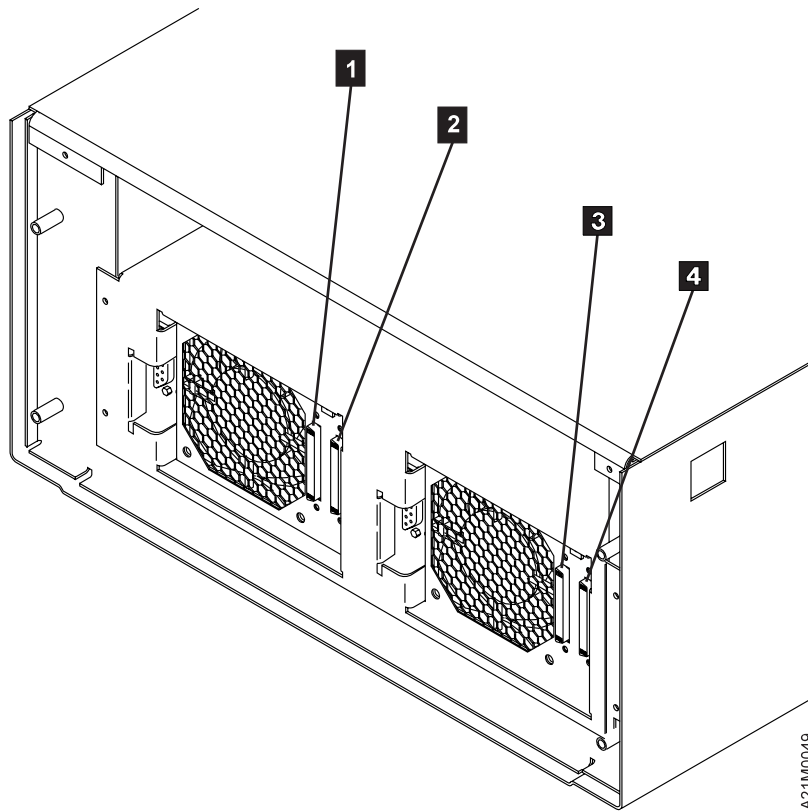

Figure 55. Rear View of Model B22
2. Ensure the SCSI Bus Jumper is connected to the rightmost SCSI connector on the back of tape drive 1, and to the leftmost SCSI connector on the back of tape drive 2. (See items **2** and **3** in Figure 55 on page 104).
3. If the 3570 is the first, or only, device in line connected to the initiator, connect the SCSI cable coming from the initiator to the leftmost SCSI connector on the back of the library. (See item **1** in Figure 55 on page 104).
4. If the 3570 is **not** the first device on the SCSI bus, connect the SCSI interface cable coming from the next closest device to the leftmost SCSI connector on the back of the library. (See item **1** in Figure 55 on page 104).
5. If this is the last device on the SCSI bus, locate the SCSI interface terminator (P/N 61G8324) and attach it to the rightmost SCSI interface connector on the back of the library. (See item **4** in Figure 55 on page 104). If the library is **not** the last device on the SCSI bus, locate the SCSI interface cable to the next device, and connect it to the unused, rightmost SCSI interface connector on the back of the library. (See item **4** in Figure 55 on page 104).
8. If tape drive 1 in the 3570 is the first, or only, device in line connected to the initiator, connect the SCSI cable coming from the initiator to the leftmost SCSI connector on the back of tape drive 1. (See item **1** in Figure 55 on page 104).
9. If tape drive 1 is **not** the first device on the SCSI bus, connect the SCSI interface cable coming from the next closest device to the leftmost SCSI connector on the back of tape drive 1. (See item **1** in Figure 55 on page 104).
10. If tape drive 1 is the last device on the SCSI bus, locate the SCSI interface terminator (P/N 61G8324) and attach it to the rightmost SCSI interface connector on the back of tape drive 1. (See item **2** in Figure 55).
11. If tape drive 1 is **not** the last device on the SCSI bus, locate the SCSI interface cable to the next device, and connect it to the unused, rightmost SCSI interface connector on the back of tape drive 1. (See item **2** in Figure 55).
12. If tape drive 2 in the 3570 is the first, or only, device in line connected to the initiator, connect the SCSI cable coming from the initiator to the leftmost SCSI connector on the back of tape drive 2. (See item **3** in Figure 55).
13. If tape drive 2 is **not** the first device on the SCSI bus, connect the SCSI interface cable coming from the next closest device to the leftmost SCSI connector on the back of tape drive 2. (See item **3** in Figure 55).
14. If tape drive 2 is the last device on the SCSI bus, locate the SCSI interface terminator (P/N 61G8324) and attach it to the rightmost SCSI interface connector on the back of tape drive 2. (See item **4** in Figure 55).
15. If tape drive 2 is **not** the last device on the SCSI bus, locate the SCSI interface cable to the next device, and connect it to the unused, rightmost SCSI interface connector on the back of tape drive 2. (See item **4** in Figure 55).
16. When the 3570 is correctly connected, all four SCSI connectors on back of the Magstar MP (see **1**, **2**, **3**, and **4** in Figure 55) must have either a SCSI cable or a SCSI terminator attached.